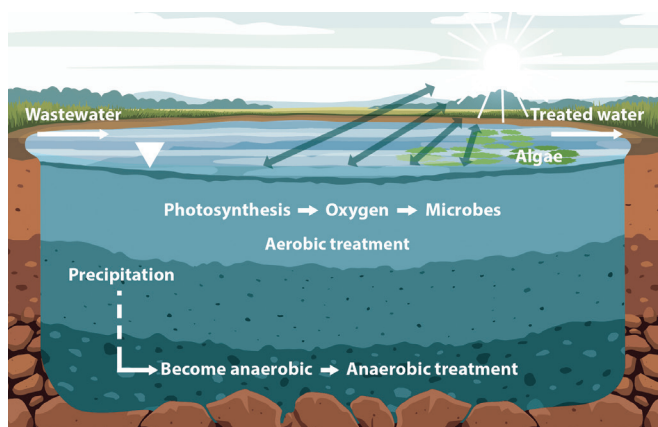

Figure 10. Aerobic Treatment Process
- In **aerobic lagoons**, aerobic bacteria use oxygen to degrade organic matter in the wastewater (Figure 10).